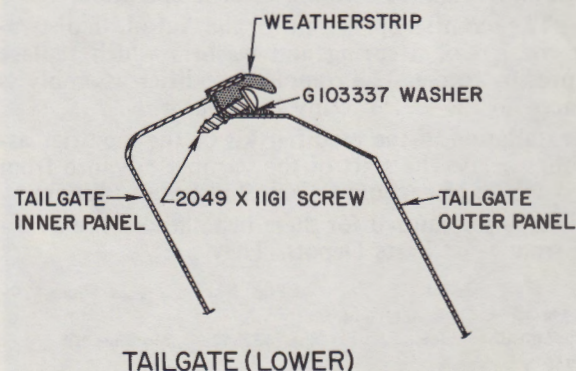

FIG. 8
3. Install the small screw, Part No. 2049 x 11G1—(No. 6—18 x 3/4 truss head) and flat washer, Part No. G103337 (5/32 x 3/8) in the punched hole and tighten the screw securely. (See Fig. 8).